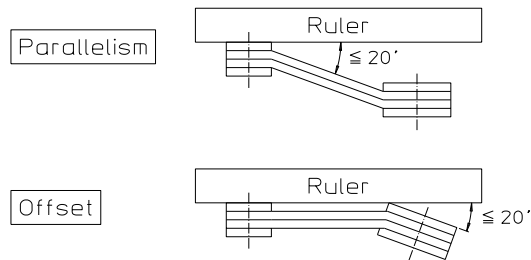

Fig.1: Parallelism and Offset
- (1) Remove the belt cover.
- (2) Loosen the holding bolts for the motor.
- (3) (When replacing) Bring the motor closer to the blower by the adjusting bolt of the motor-base, and remove the old belt.
- (4) (When replacing) Install the new belt. If multiple belts are used, it is recommended to use “matched set” of which the circumference length is the same.
- (5) Adjust the parallelism and offset as putting a ruler on motor pulley and blower pulley, at the same time, adjust deflection as you give tension at the center of the span to the belt. (Fig.1, 2 and Table 1)
- (6) Tighten the holding bolts to fix the motor.
- (7) Put back the belt cover.